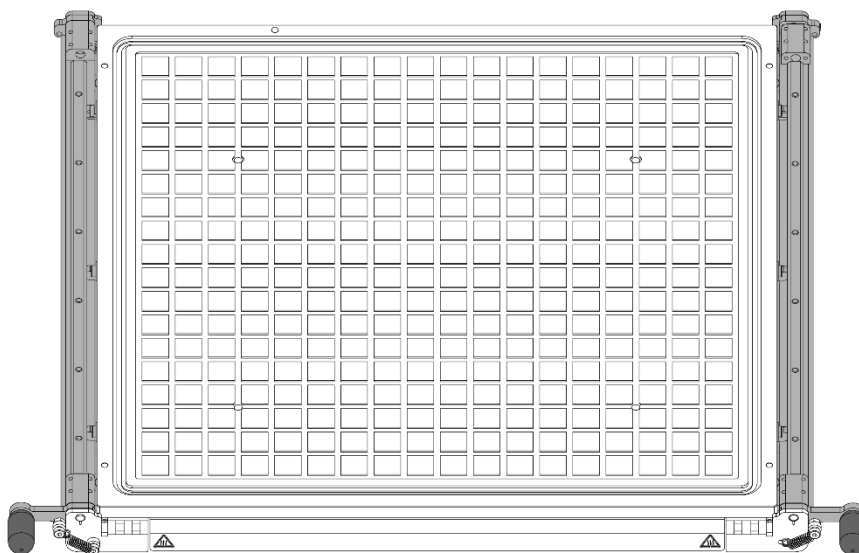

Fig. 73 Build plate installation – open clamps with handles
5. Open the two side locks (Fig. 73, grey) using the handles (Fig. 73, black).
6. Tilt the two side locks (Fig. 73, grey) using the handles (Fig. 73, black).